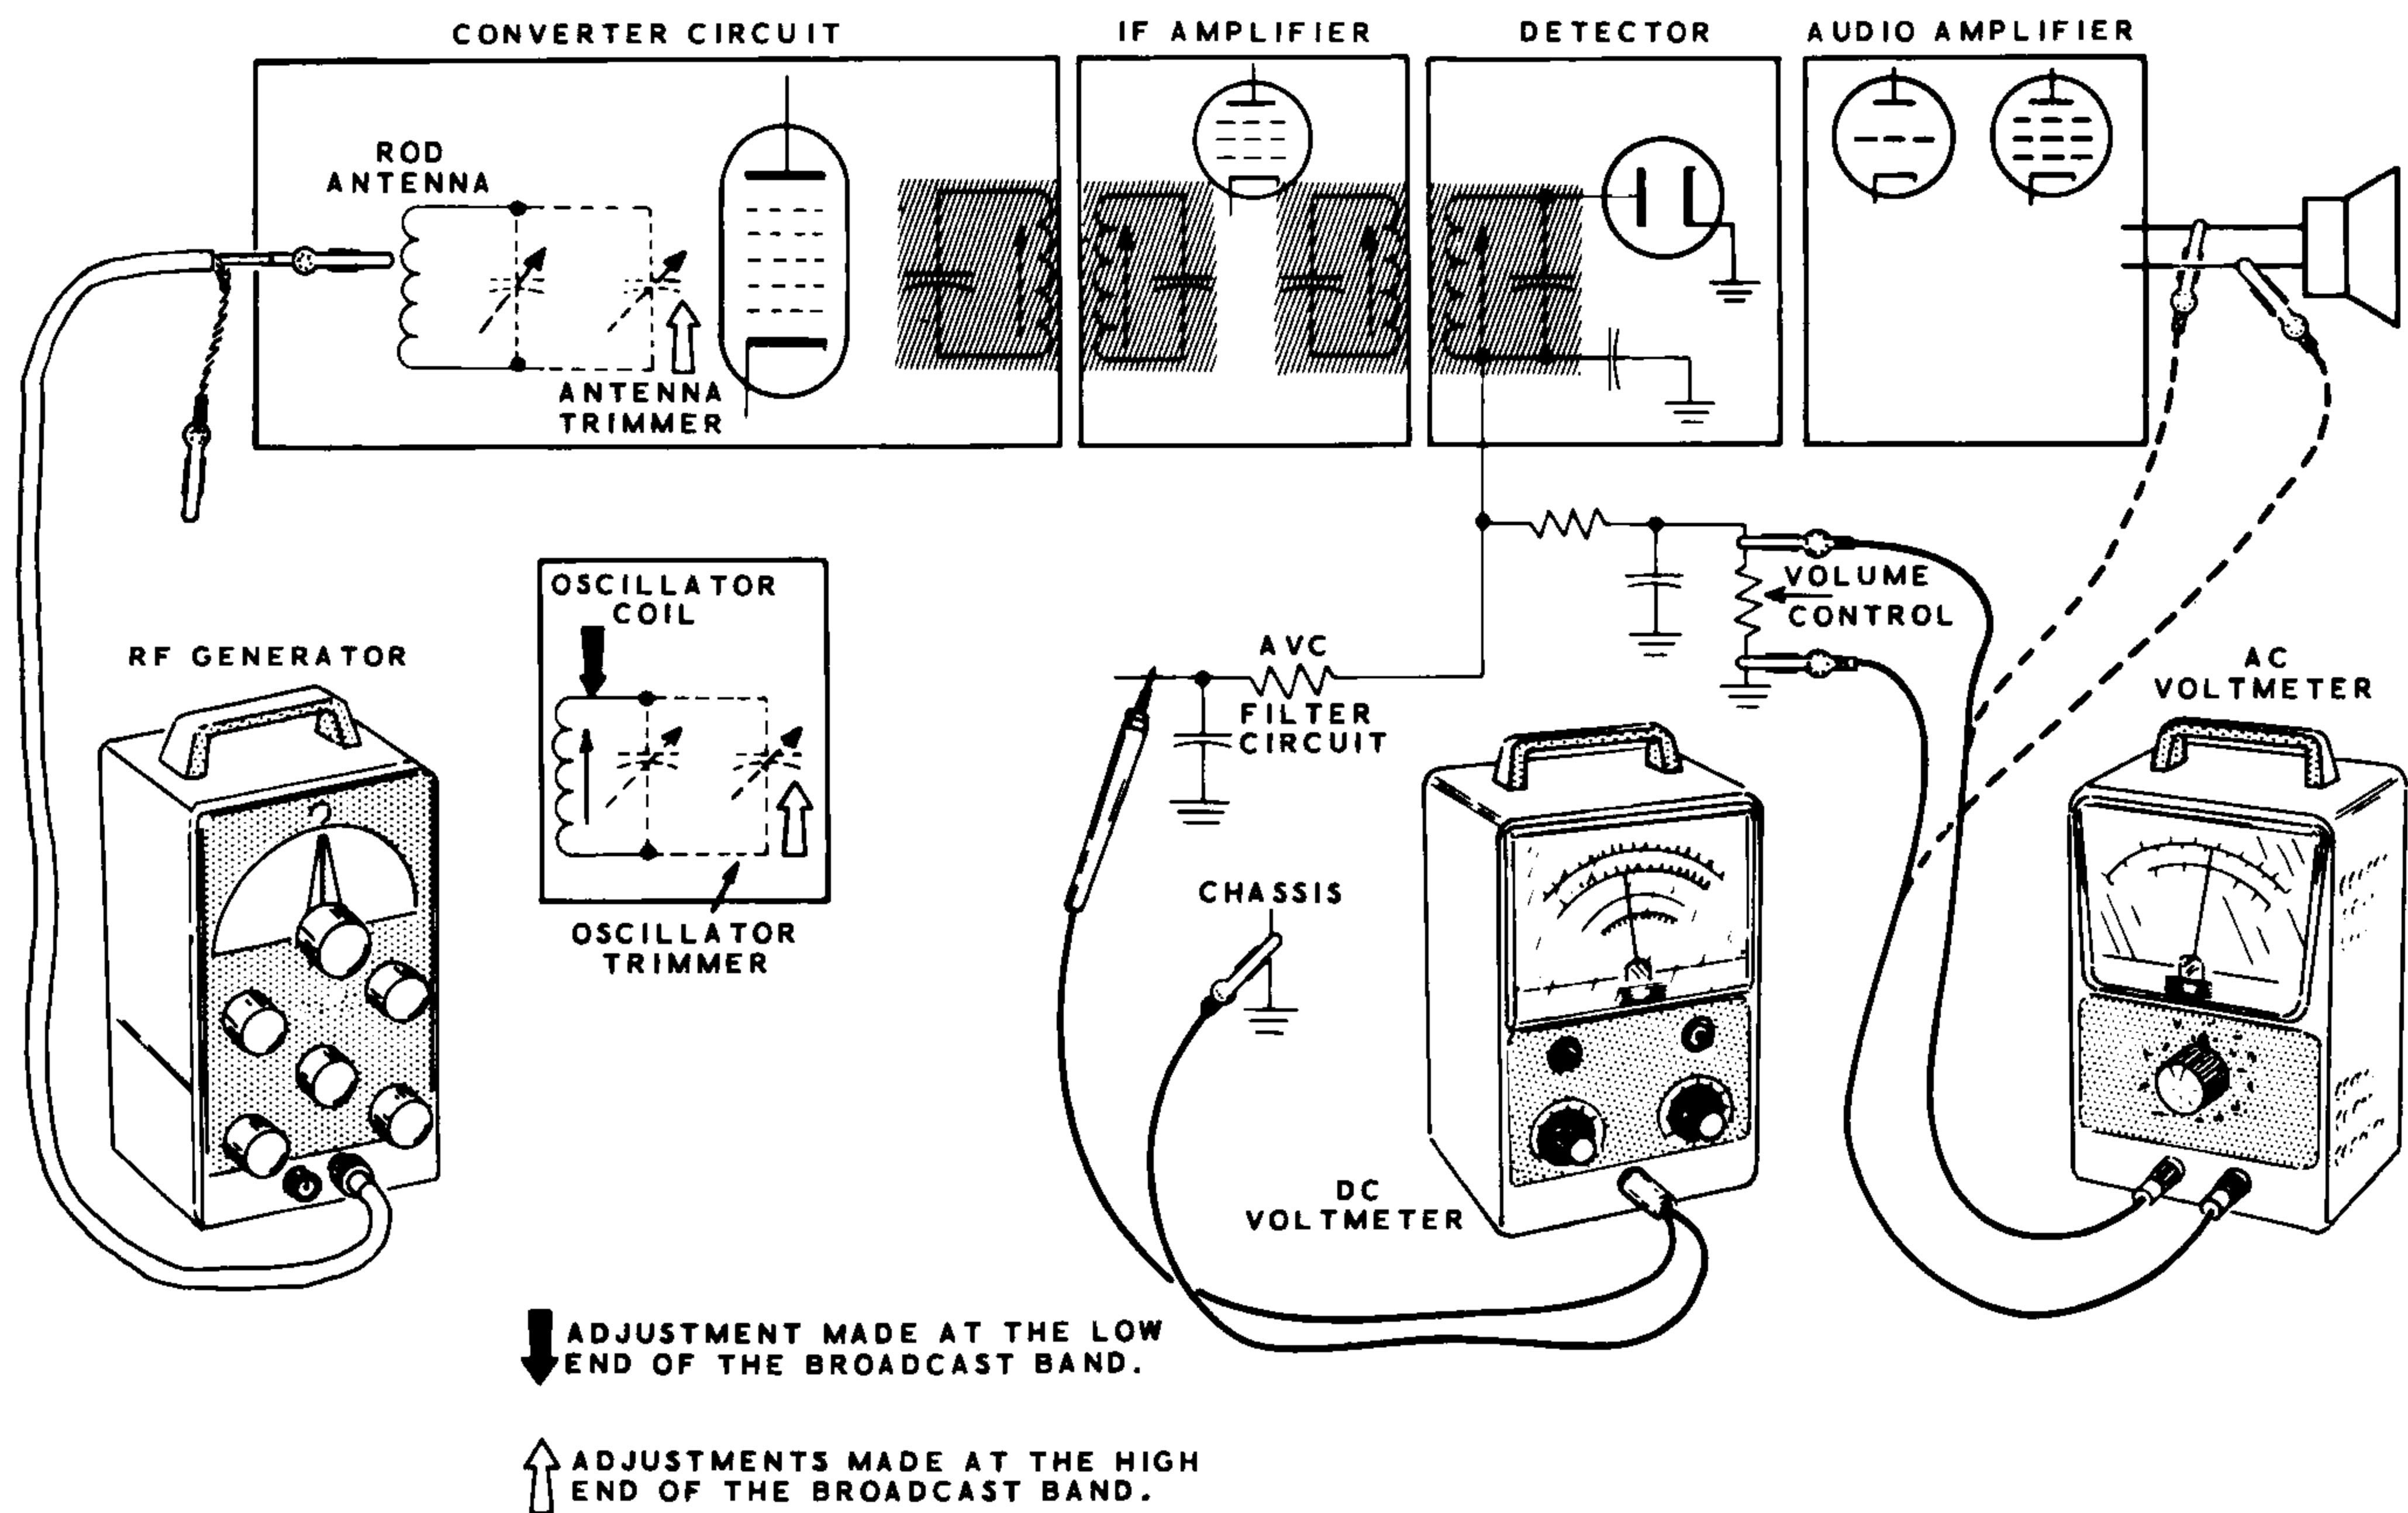

Figure 4
Figure 4 shows a block diagram of a typical AM radio. This diagram includes all of the circuits that must be aligned. The radio speaker or a suitable voltmeter may be used as the output indicator. However, a voltmeter will indicate smaller changes in the output signal and is more desirable.
6. Use an insulated alignment tool to adjust the IF transformers which are shown in the shaded portions of Figure 4. Start with the last IF transformer (next to the detector stage) and work toward the first; adjust each one for a maximum reading on the voltmeter or the loudest signal from the speaker. At the same time, reduce the Signal Generator output to keep the output of the radio at minimum but still large enough to give an indication on the voltmeter.
8. Set the Signal Generator and radio to 1600 kc. Adjust the oscillator trimmer capacitor (shown by light arrow in Figure 4) for maximum voltage reading.